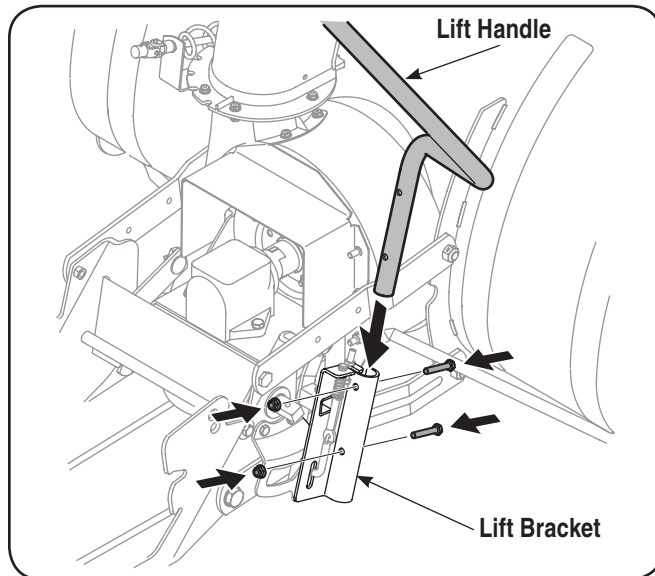

Figure 3-7
1. Attach lift handle to lift bracket on the right side of auger housing assembly with two hex screws and two flange nuts provided. See Fig. 3-7.